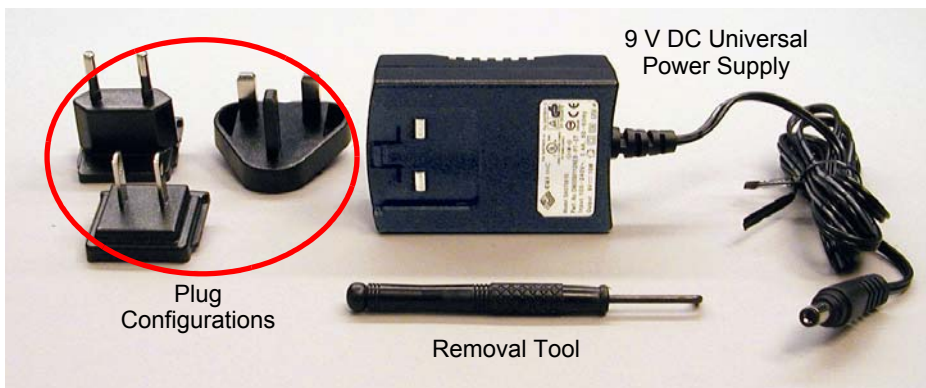

Figure 3. 9 V DC Universal Power Supply Components
- 9 V DC universal power supply (for details, see Figure 3 on page 6)
Figure 3 displays the contents of the Universal Power Supply kit.